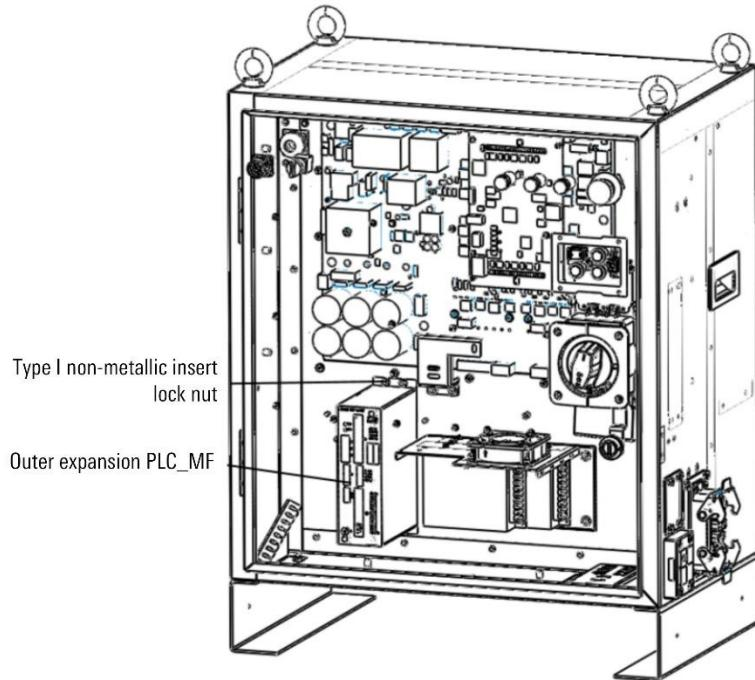

Figure 17-3 Install the external expansion PLC\_MF in the ARC5 cabinet
Step1. Use four M5-I type non-metallic insert locking nuts to fix the external expansion PLC\_MF to the middle partition of the ARC5 control cabinet, refer to Figure 17-3.